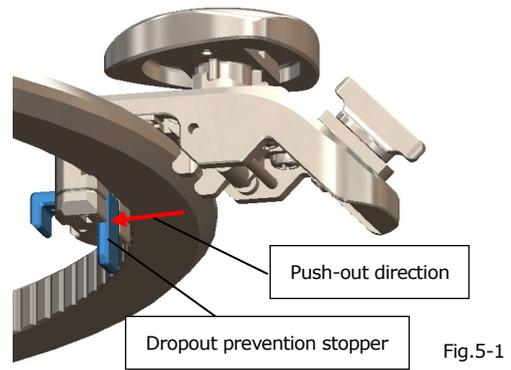

Fig.5-1
(5)-1 Push the dropout prevention stopper outward (Fig.5-1).